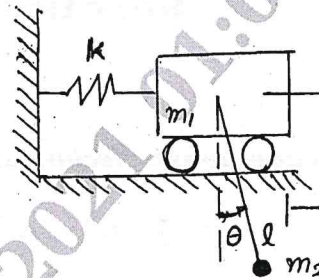

Fig. Q4 (a)
- 4 a. Derive the equation of motion for the two degree of freedom system shown in Fig. Q4 (a). (14 Marks)